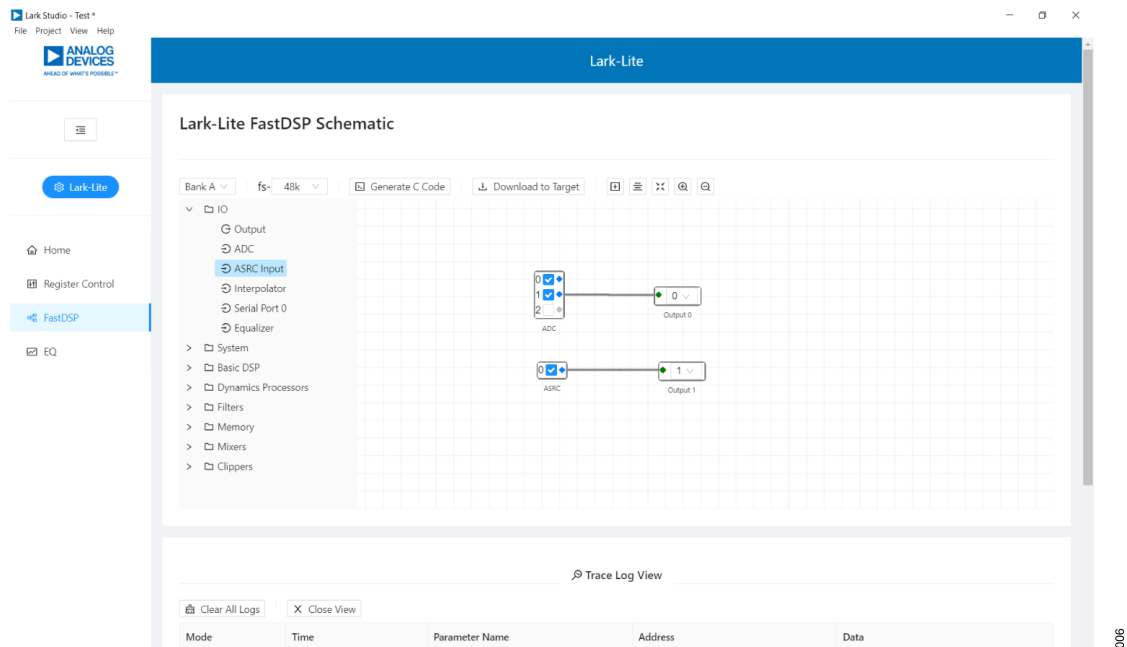

Figure 6. FastDSP Schematic Configuration
3. Select and drag an icon into the schematic window, for example, the **ADC** icon within the **IO** folder (see Figure 6). In this example, AIN1 and ASRCI are being routed to FastDSP **Output 0** and **Output 1**.